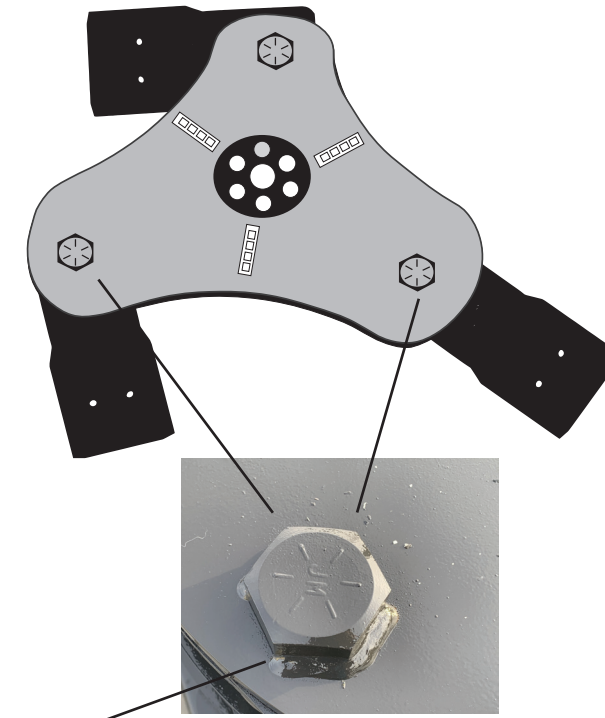

Figure 5.6 - Bolt Shank Removal from Blade Holder
2. Carefully cut the welded bead around the bolt head to allow the bolt to rotate. DO NOT cut into the blade holder (see Figure 5.6 on next page).